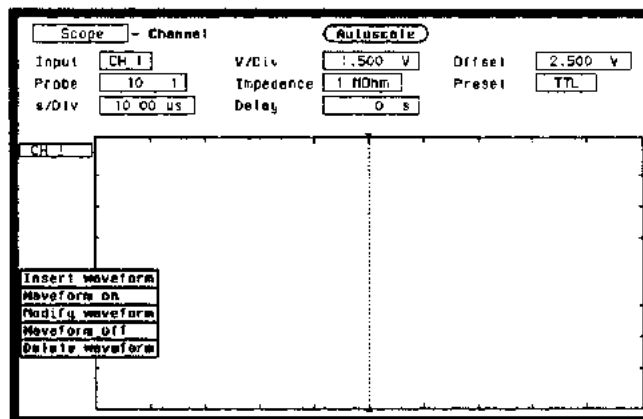

Figure 3-45. Deleting Channel 2
5. Press the FORMAT/CHAN key and turn off channel 2 by deleting the channel 2 waveform as in figure 3-45. Refer to steps a and b if you are unfamiliar with menus.